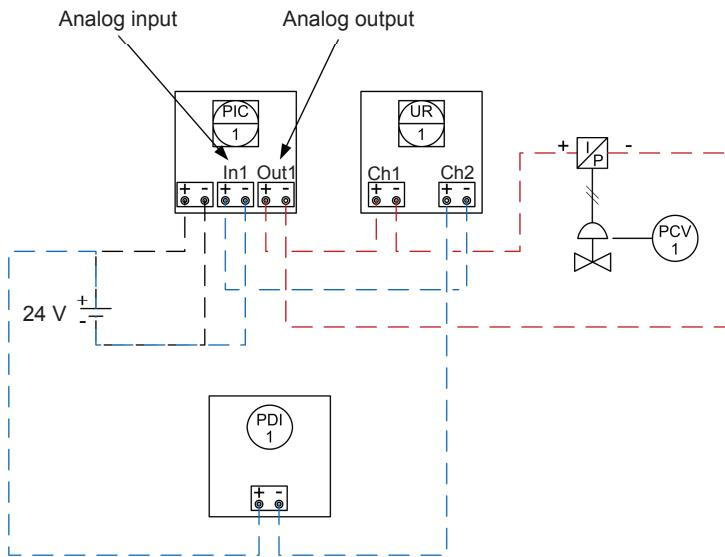

Figure 2-29. Connecting the equipment to the recorder.
- 8.** Figure 2-29 shows how to connect the different devices together.